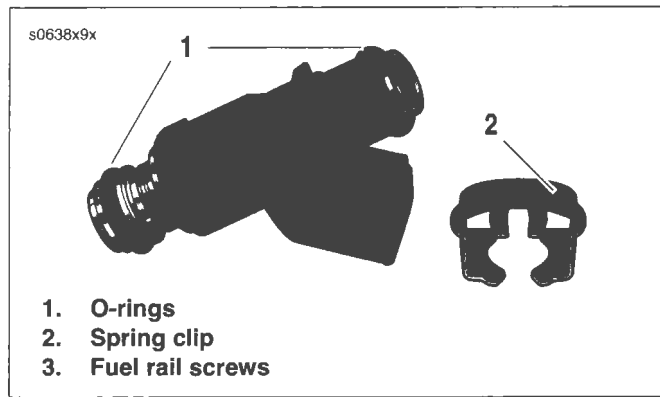

Figure 4-35. Fuel Injector
5. See Figure 4-35. Remove spring clips (2) from fuel injectors. Pull fuel injectors from fuel rail. To overcome the resistance of the top o-ring, gently rock each fuel injector while pulling.
6. Remove o-rings (1) from fuel injectors. Discard O-rings.
1. See Figure 4-35. Apply a thin coat of clean engine oil to **new** fuel injector o-rings (1). Install on fuel injectors.